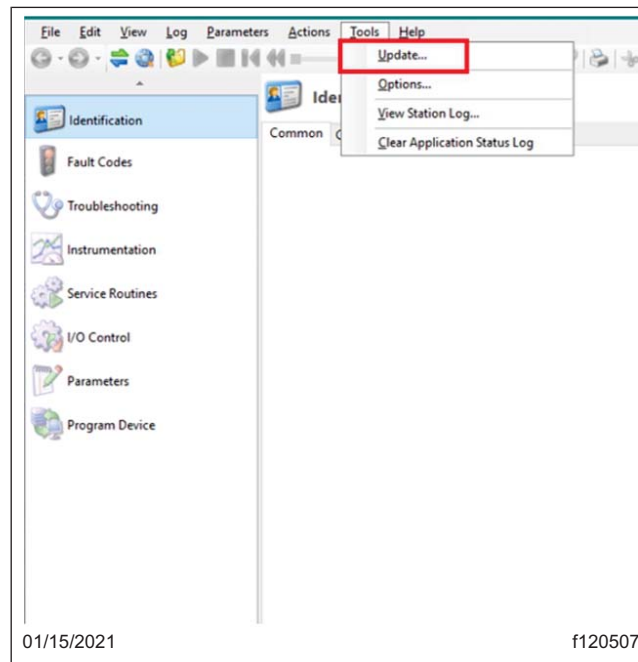

Fig. 1, Updating DiagnosticLink to the Latest Version
6. To update DiagnosticLink, from the menu bar, select 'Tools,' then select 'Update' from the dropdown menu. See Fig. 1.